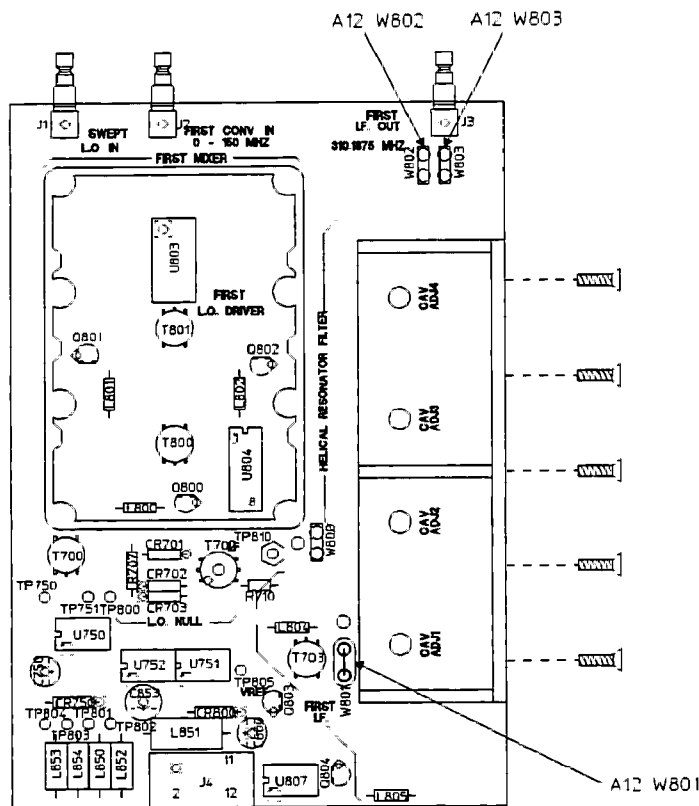

Figure 5-14. A12 First Conversion Component Locator
2. Move A12 W801, W802, and W803 to their test positions (see figure 5-14).